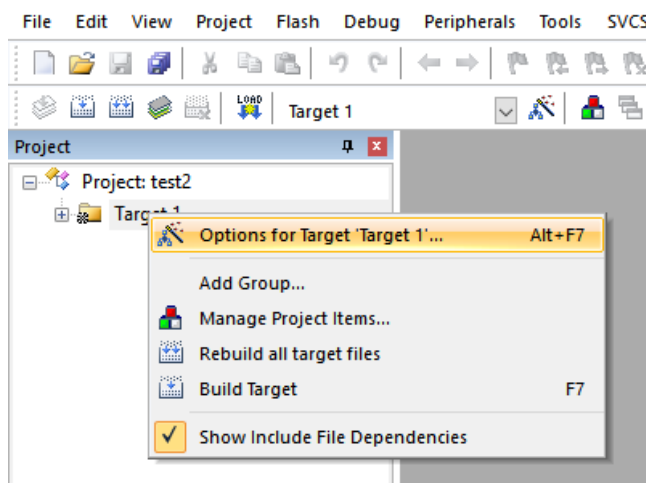

Figure 66 - Options for target
2. Right-click on the created project and select “Options for Target” as shown in Figure 66.